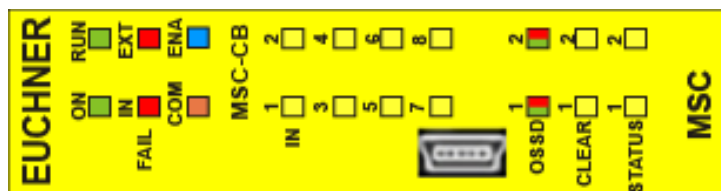

Figure 13:
8.3.1. Base unit MSC-CB (Figure 13)